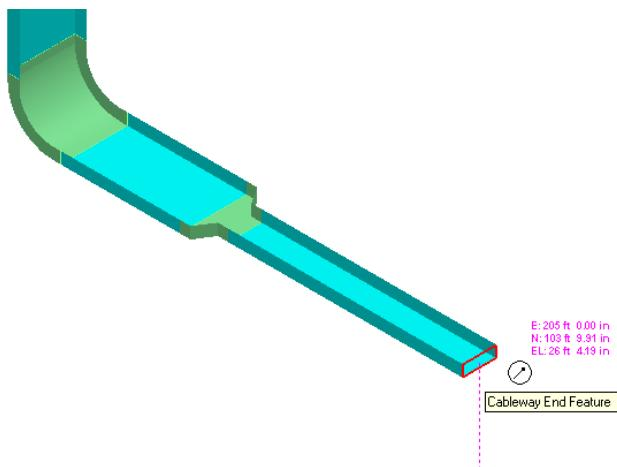

Figure 52: Selected End Feature
2. Select the **Cableway End Feature** of the cable tray you just placed, as shown in Figure 52.